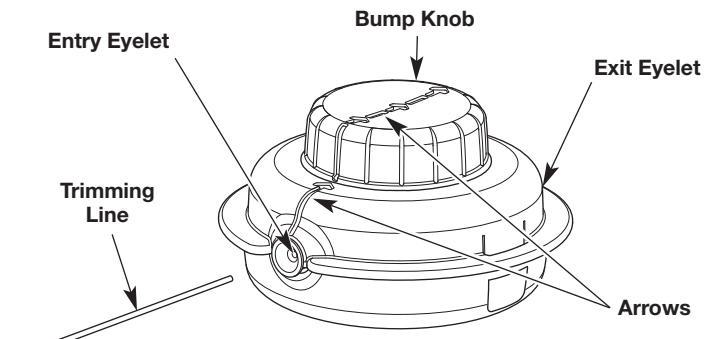

Fig. 18
- Turn the bump knob counterclockwise to align the arrows (Fig. 18).
- Insert the new trimming line into the entry eyelet (Fig. 18). Push the line through the cutting head until a few inches protrude from the exit eyelet. Pull the protruding line until approximately 10 feet (3 m) of line extends from each side of the cutting head. Make sure the line lengths on each side are equal.